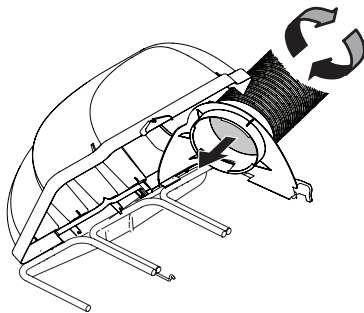

Figure 20
1. Thread the upper end of the hose (764-05082) securely into the upper chute support. There are two tabs on the lower inside part of the upper chute support to allow for secure threading. See Figure 20.